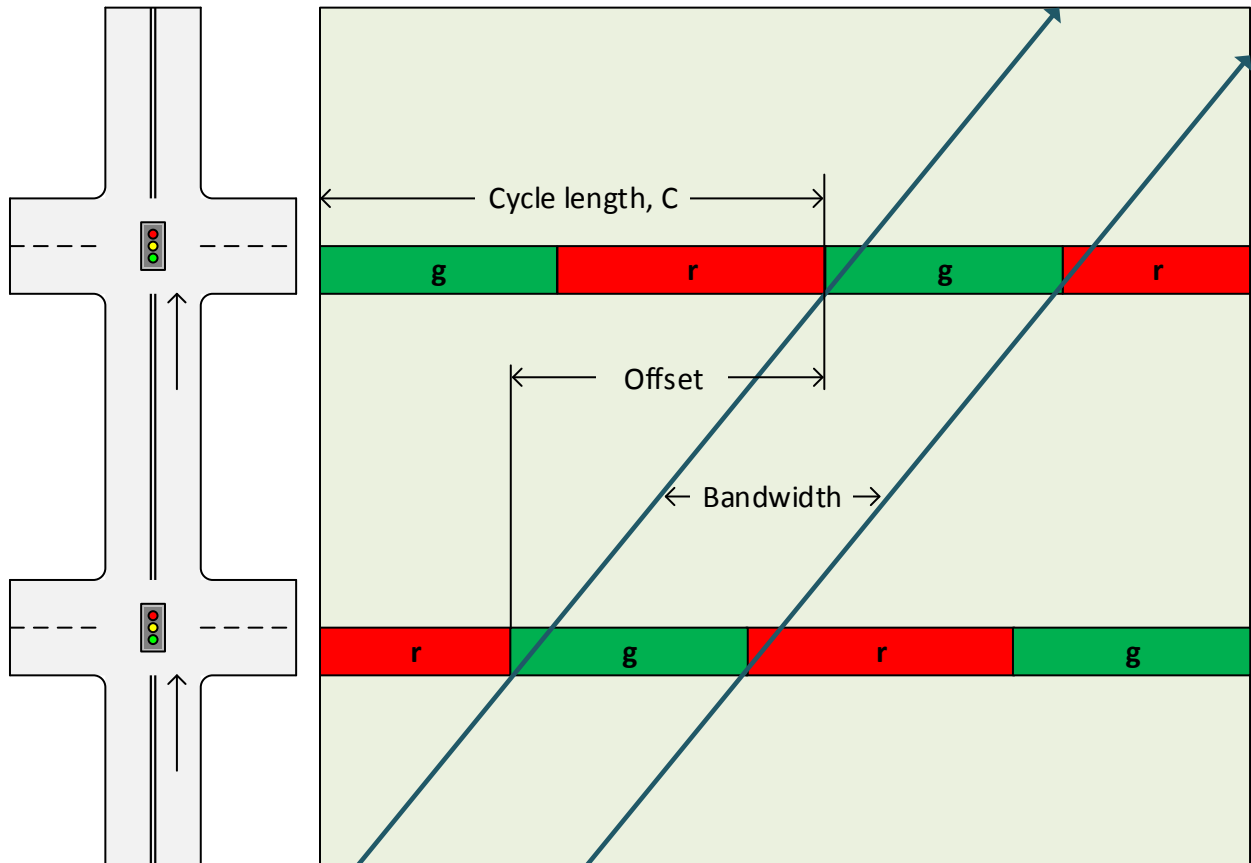

Figure 2 Time space diagram
A simplified version of this same TSD is shown in Figure 2. Here the displayed green (G), yellow (Y), and red (R) intervals are replaced by the effective green (g) and effective red periods (r). Also, only the first and last vehicles in the platoon are shown. In both figures, the platoon is assumed to be well-structured as all vehicles travel at the same speed with uniform headways between each vehicle pair. In addition, Figure 2 shows the bandwidth, defined to be the maximum time duration of the platoon that can be served with the green band provided along the arterial.